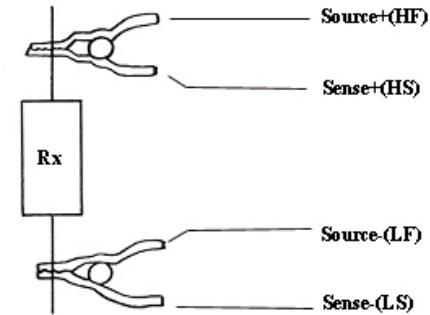

Figure 7-1
(1) The 4-wire measurement can eliminate wire resistance and get accurate resistance. Please refer to the wiring method as Figure 7-1.